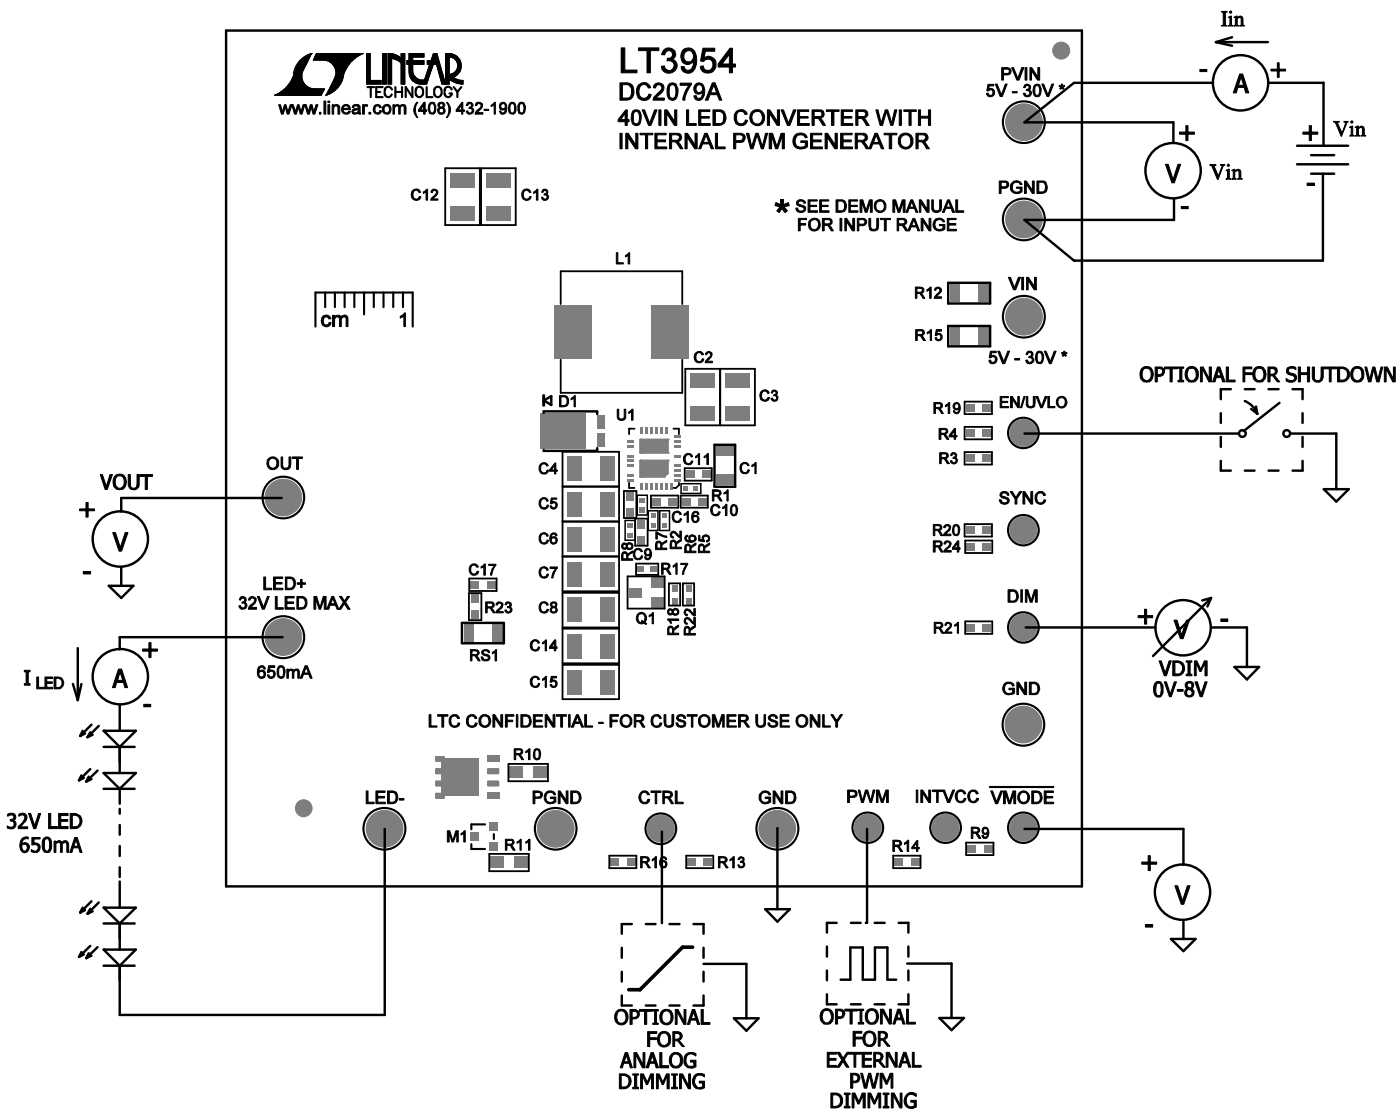

Figure 1. Test Procedure Setup Drawing for DC2079A
1. Connect a string of LEDs that will run with forward voltage less than or equal to 32V, but greater than the intended PV_{IN} , to the LED+ and LED– terminals on the PCB as shown in Figure 1.